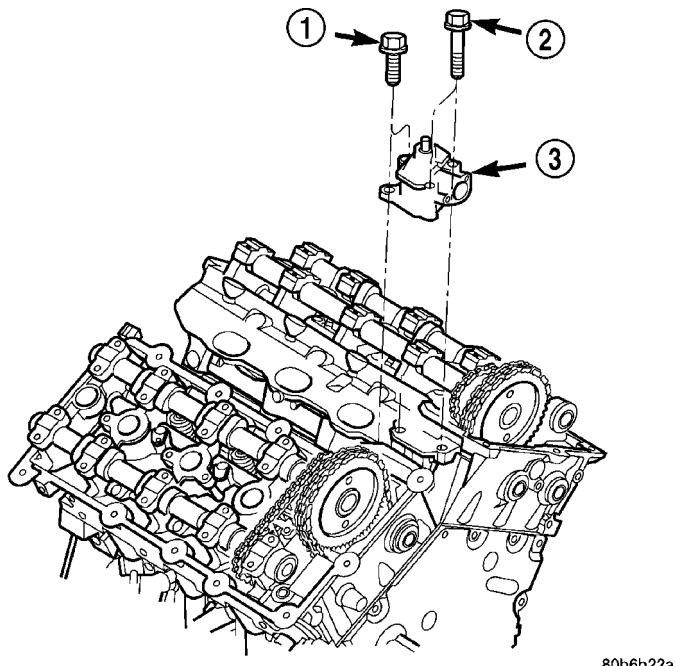

Fig. 1 Coolant Outlet Connector - 2.7L
(1) Drain cooling system (Refer to 7 - COOLING - STANDARD PROCEDURE).
(2) Remove upper intake manifold (Refer to 9 - ENGINE/MANIFOLDS/INTAKE MANIFOLD - REMOVAL).
(3) Remove screws attaching heater tube to outlet connector.
(4) Disengage tube from outlet connector only enough for connector removal.
(5) Remove bolts attaching water outlet connector (Fig. 1).
(6) Remove outlet connector.
(1) Clean sealing surfaces. Inspect gaskets for tears and cuts. Replace as necessary.
(2) Install outlet connector and tighten bolts to 12 N·m (105 in. lbs.) (Fig. 1).
(3) Inspect and replace heater supply tube O-ring as necessary.
(4) Lubricate O-ring and insert heater tube assembly into outlet connector. Tighten screws to 3 N·m (30 in. lbs.).
(5) Install upper intake manifold (Refer to 9 - ENGINE/MANIFOLDS/INTAKE MANIFOLD - INSTALLATION).
(6) Fill cooling system (Refer to 7 - COOLING - STANDARD PROCEDURE).